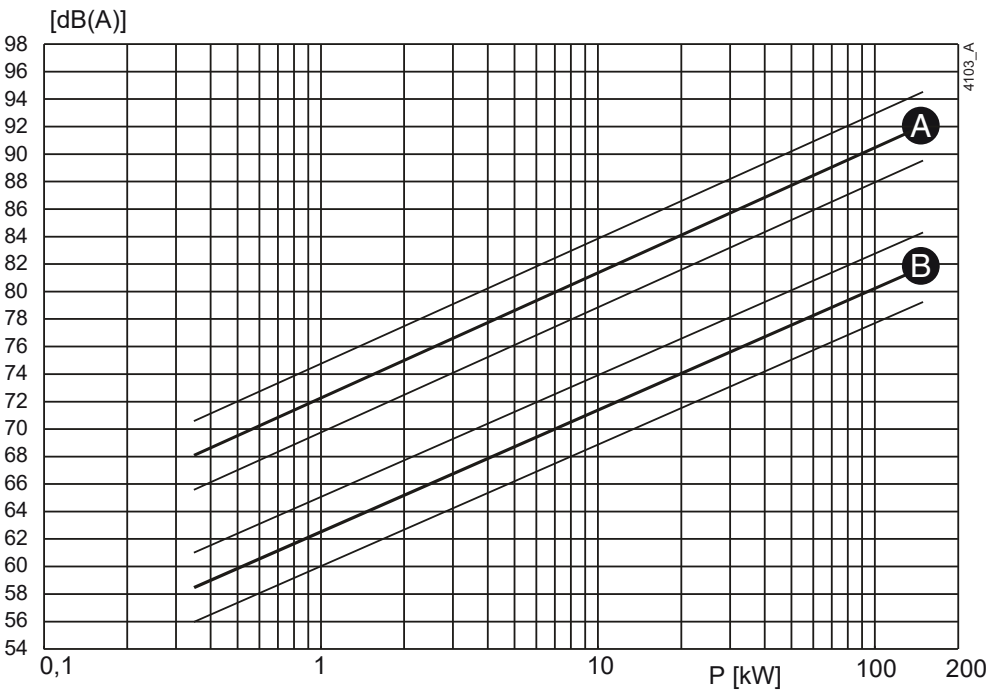
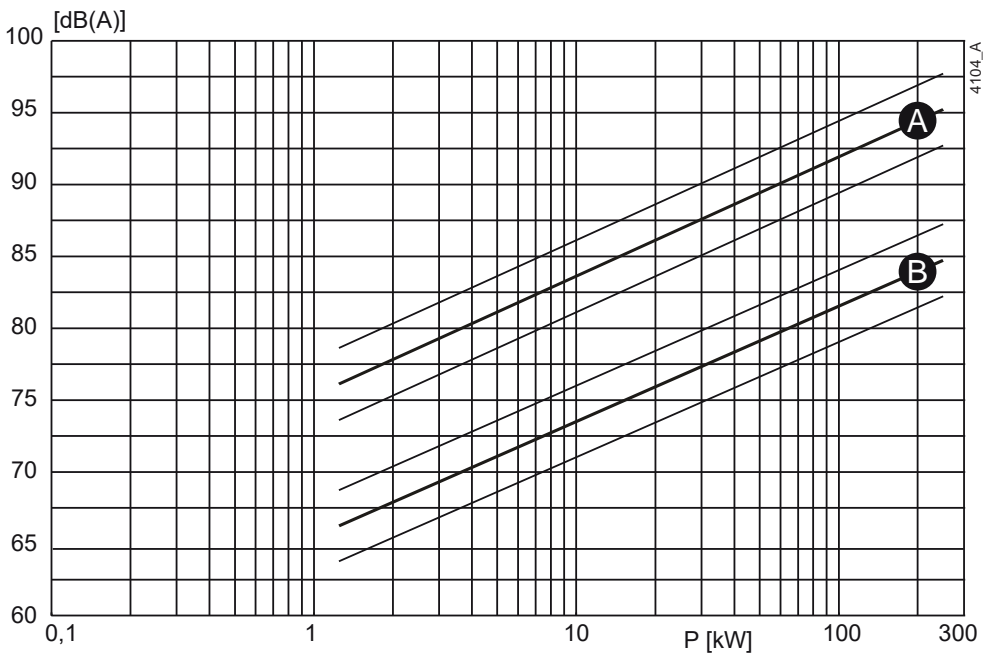

Figure 21: Noise level as function of pump power [kW] at  $1450 \text{ min}^{-1}$
Figure 22: Noise level as function of pump power [kW] at  $2900 \text{ min}^{-1}$
- 1 Determine the noise level (L1) of the pump, see figure 21 or figure 22.